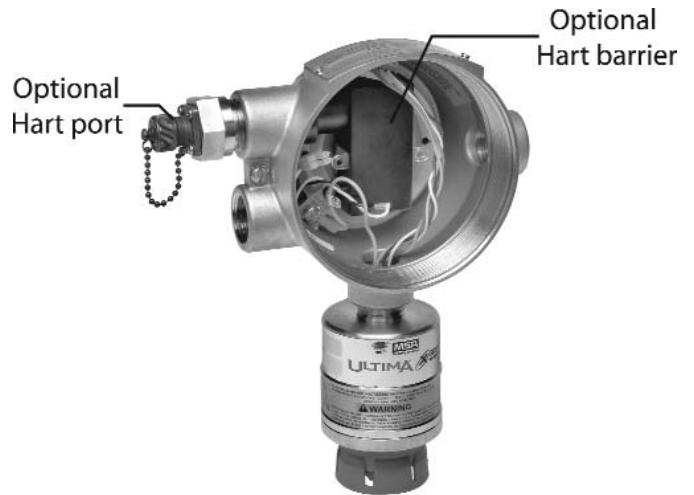

Figure 1
1. Remove the lid and the electronics from the enclosure (FIGURE 1).
3. Mount the sensor module in the applicable conduit entry. Ensure the sensor wiring harness is through the entry and the sensor is pointing downward. Tighten with a strap wrench (FIGURE 1).